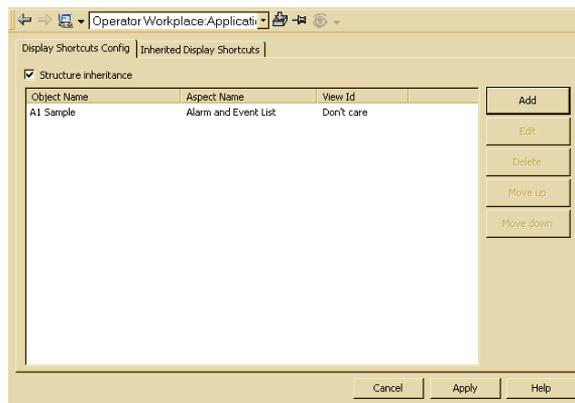

Figure 49. Dialog Box for editing of Application Bar Shortcut
3. Double-click on the aspect and a dialog box opens. See Figure 49.